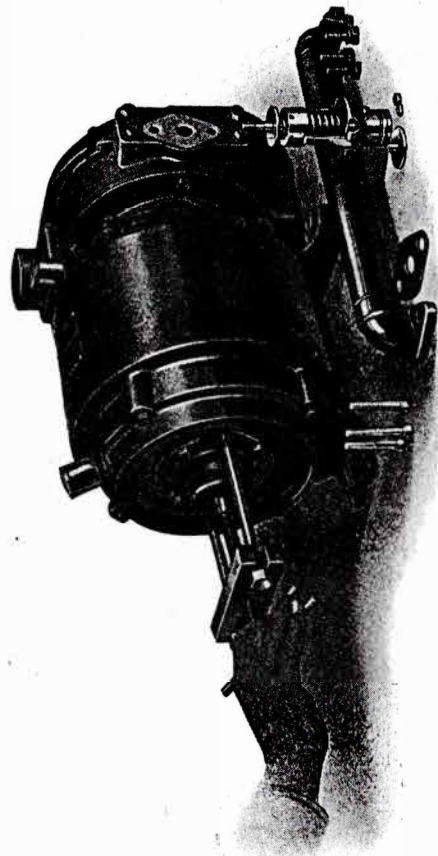

FIG. 2.
8. Remove the bolts in the governor end housing cap (2377G) and apply the extractor, screwing the two long bolts provided, into the two threaded holes in the housing. By tightening the "Tommy" screw against the shaft end, the housing will be drawn off. (See Fig 2.)